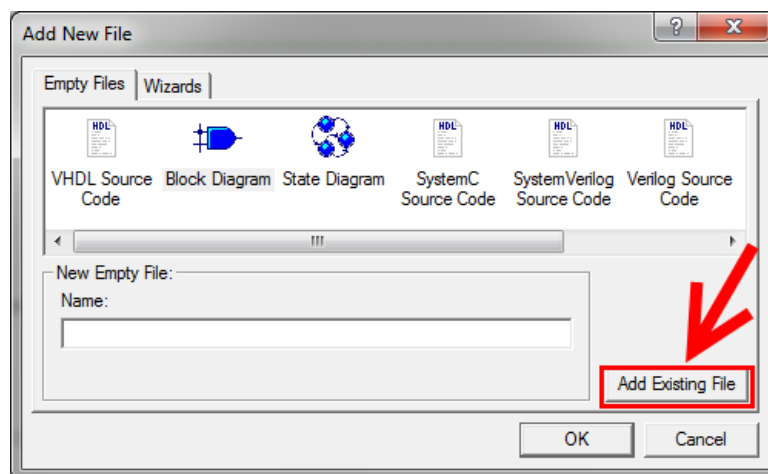

Figure 2
2. Working in the design you created in the previous tutorial, double-click “Add New File” in the Design Browser. Now, click the ‘Add Existing File’ button (Figure 2).